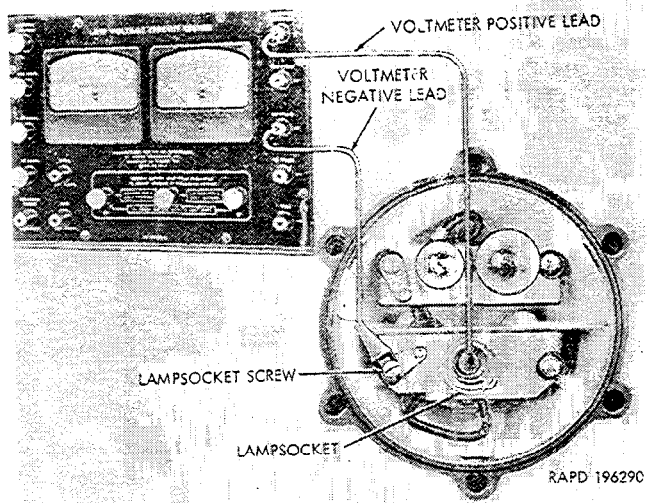

Figure 2-37. Checking for current at blackout marker light.
a. *All Lights Out (Engine Starts).* If no vehicle lights are operative when the light switch is at SER DRIVE position and the batteries are known to be fully charged, proceed with (1) below.
(1) *Check for current at blackout marker light (fig. 2-37).*